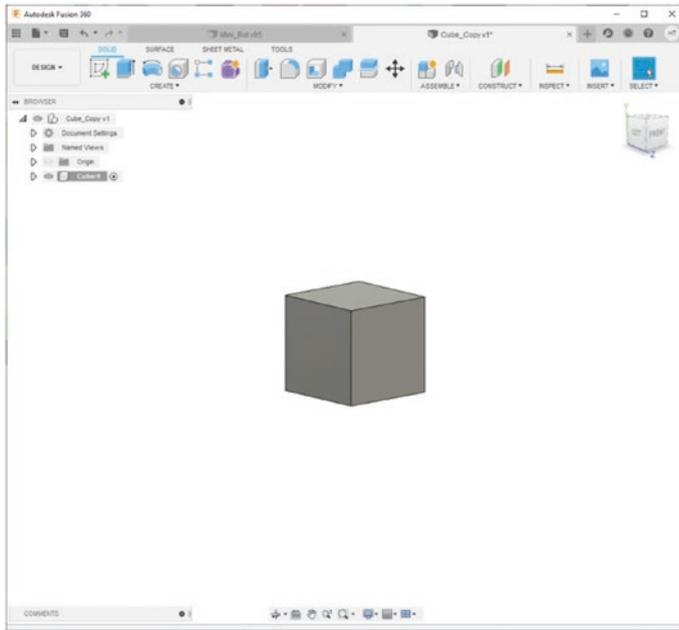

Figure 8-3. 5 x 5 x 5mm cube
3. Create a 5mm by 5mm by 5mm cube. See Figure 8-3.